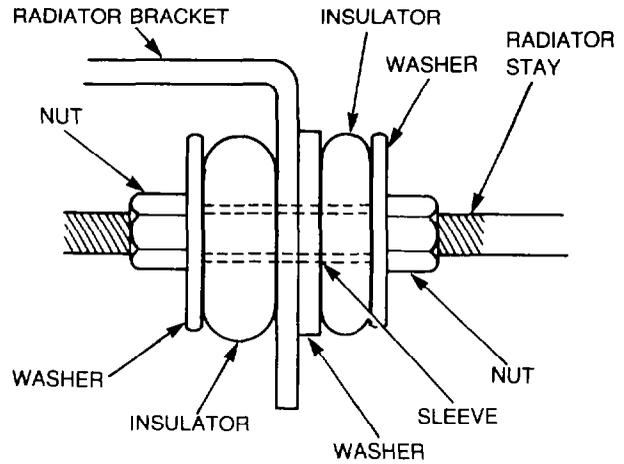

Figure 321 — Radiator Stay and Insulators
- u. Install a nut onto the threaded end of both radiator stays followed by a washer, a sleeve, a rubber insulator and a large washer. Insert the ends of the stays through the radiator brackets, then position a rubber insulator, a washer and start the remaining nuts onto the thread of the stays. Align the holes in the stays (at the firewall end) with the holes in the firewall, then install the bolts, nuts and washers and tighten the bolts and nuts securely. At the radiator brackets, adjust both the inner and outer nuts on the stays finger tight so as not to disturb the positioning of the radiator, then tighten both the inner and outer nuts equally until the sleeves are clamped between the inner and outer washers as shown in Fig. 321.